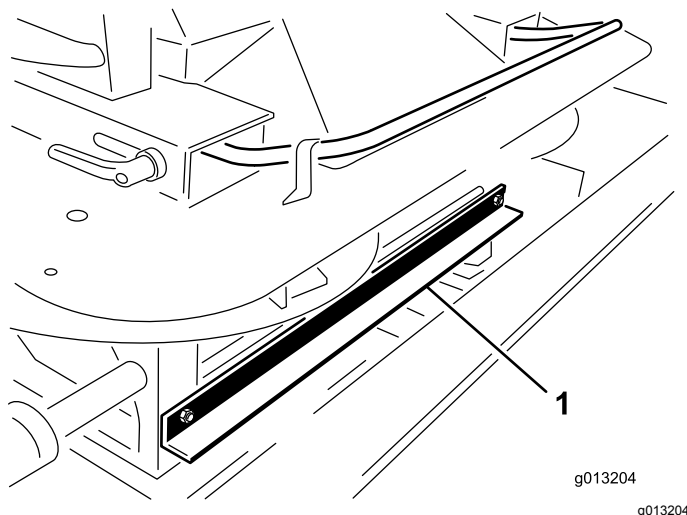

Figure 4
3. At the front of the twin spinner, remove the 2 bolts and nuts attaching the machine lifting device shipping bracket to the Twin Spinner (Figure 4).